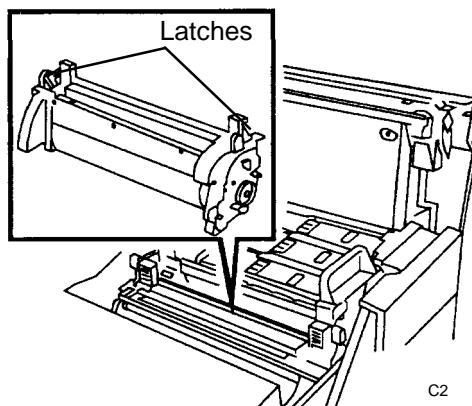

Figure 3. Print Drum Removal
3. (Figure 3): Release the two green latches and slide the Print Drum module out of the printer.